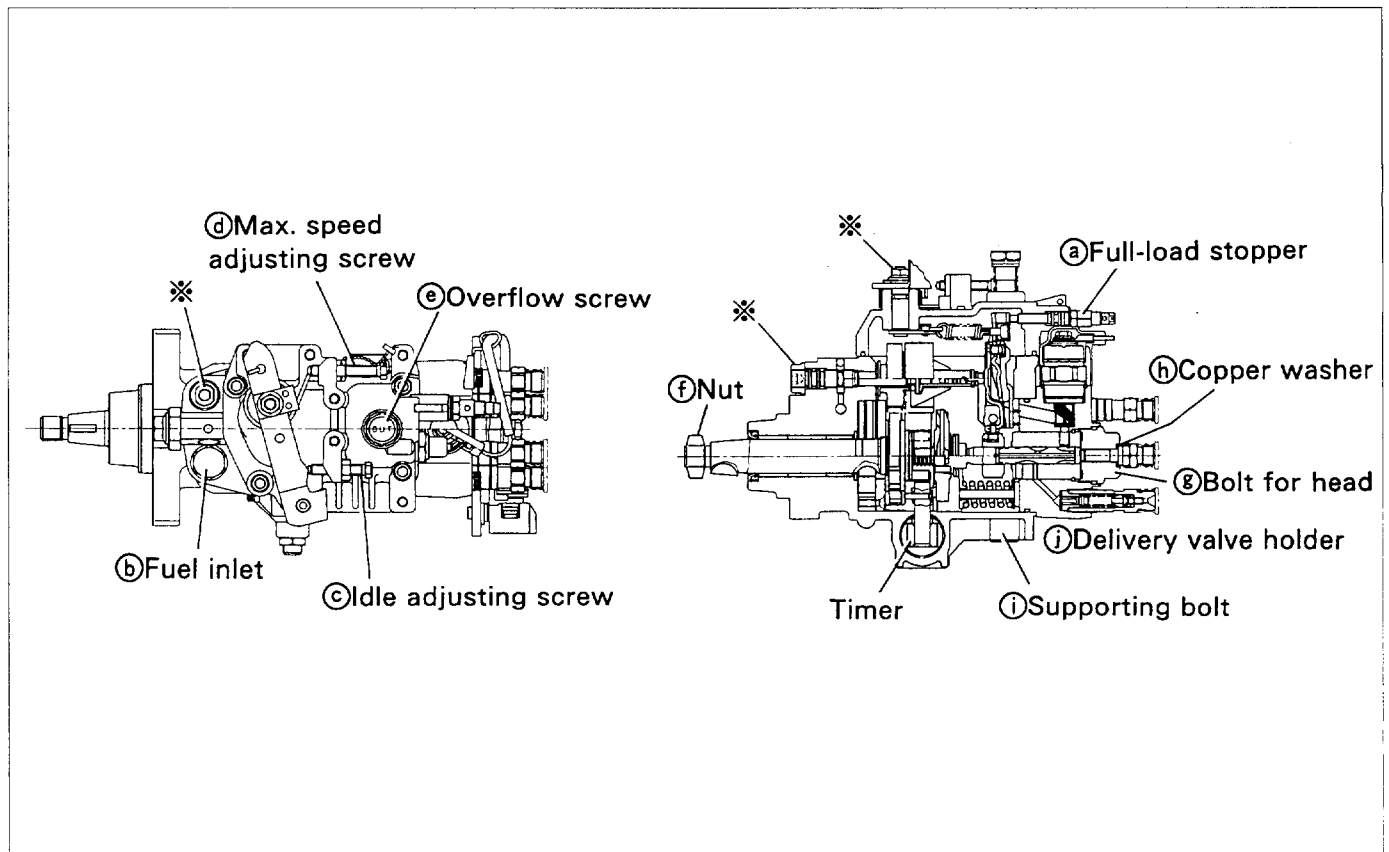

Fig. 6-1 Precautions
- a. Improper full-load stopper (See ill. (a) in Fig.6-1) adjustment will result in either low or lack of power, or excessive engine speed and/or smoke.
- b. Improper maximum speed adjusting screw (See ill. (b) in Fig.6-1) setting may cause engine over speeding.
- a. Do not loosen or tighten the yellow painted nuts or bolts (See ill. "*" in Fig.6-1) as damage or leaking may occur.
- b. Every time the distributor head bolts (See ill. (g) in Fig.6-1) is loosened for the purpose of setting the timing, the copper washer (See ill. (h) in Fig.6-1) should be replaced.
- c. The use of excessive torque on the pump support bolts (See ill. ① in Fig.6-1) may cause binding of the timer piston in the pump housing.